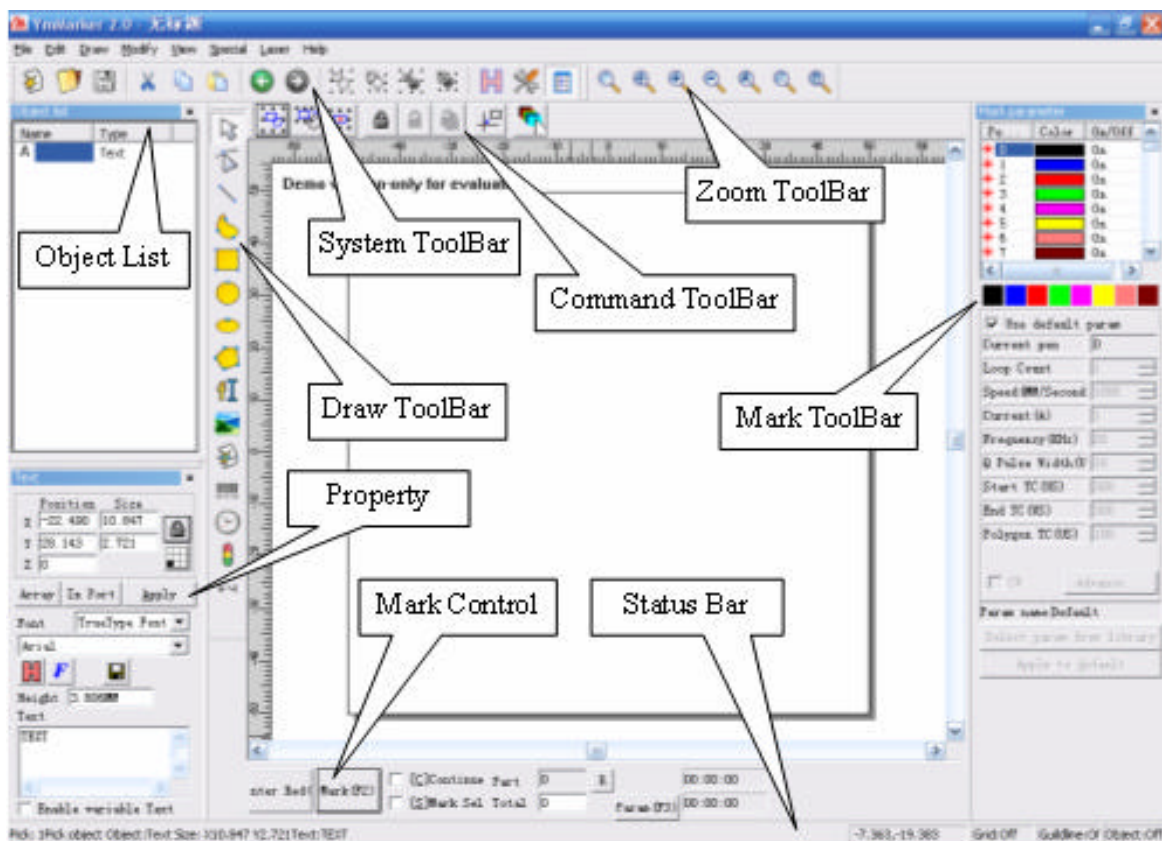

Figure 1-2 YmMarker2.0 Main Window
- **Main Interface (Figure 1-2)**